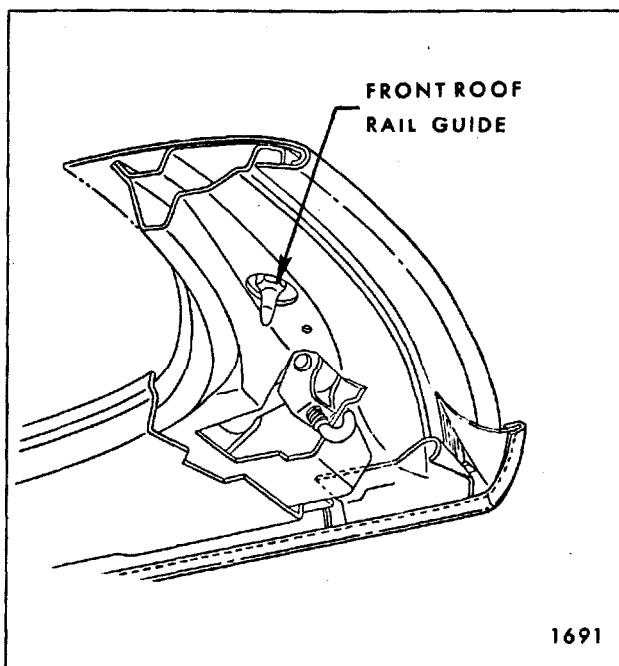

Fig. 6-82—Guide Adjustment
2. Loosen guide sufficiently to permit adjustment (Fig. 6-82).